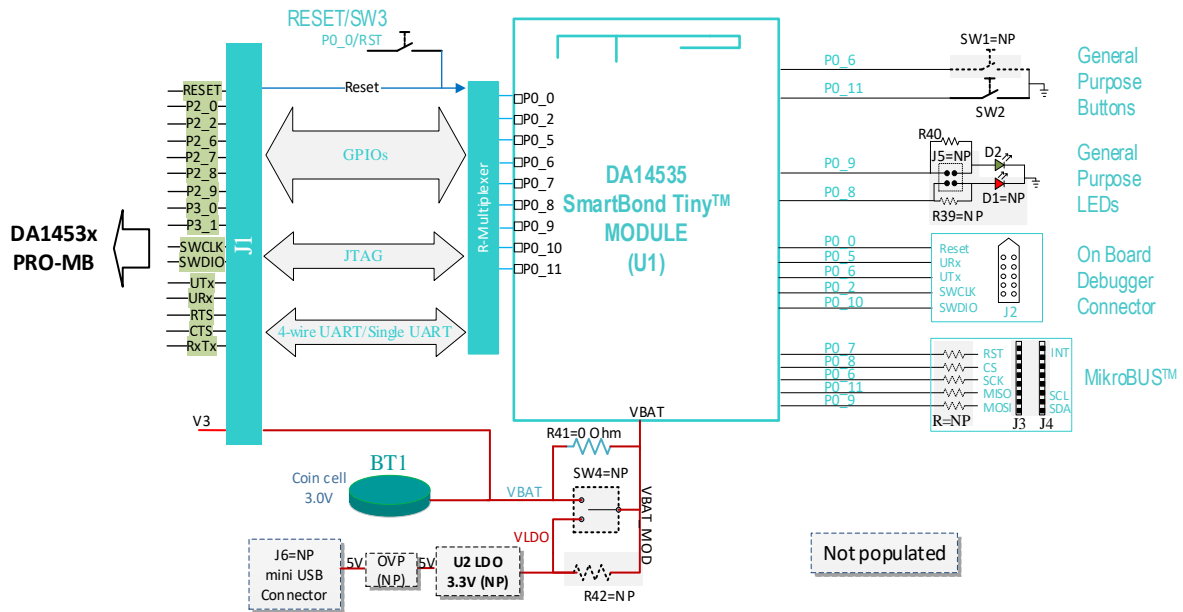
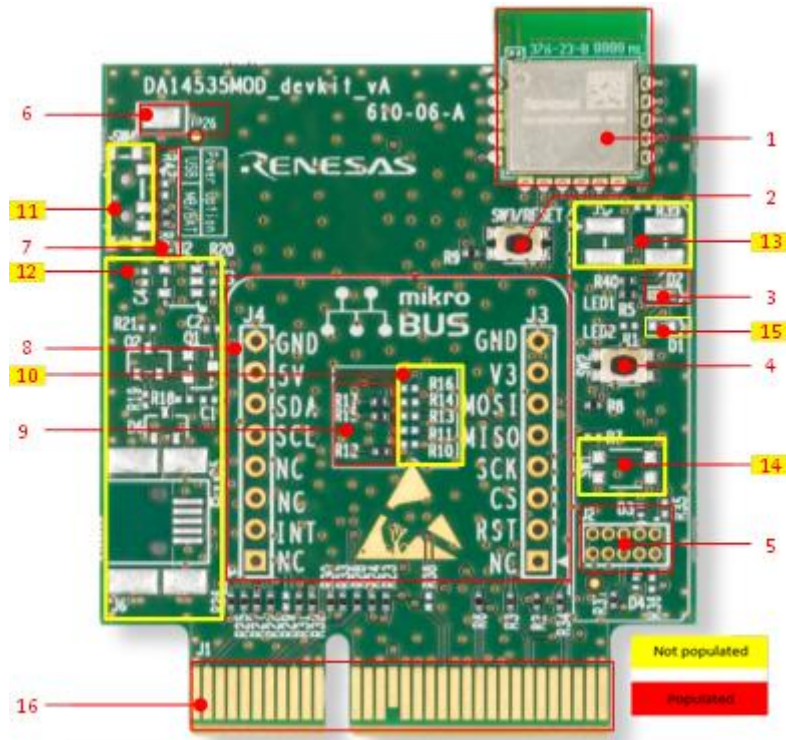

Figure 7. Block diagram of DA14535 SMARTBOND TINY™ MODULE DB
Figure 8. Top side components of DA14535 SMARTBOND TINY™ MODULE DB
The system on DA14535 SMARTBOND TINY™ Daughterboard (DB) consists of the DA14535 Module, the power section, the general purpose LEDs and Buttons, the debugging connector and the MikroBUS™ section. The system block diagram is shown in Figure 7, and the actual component's location in Figure 8 for top side and Figure 9 for bottom side of Daughterboard.